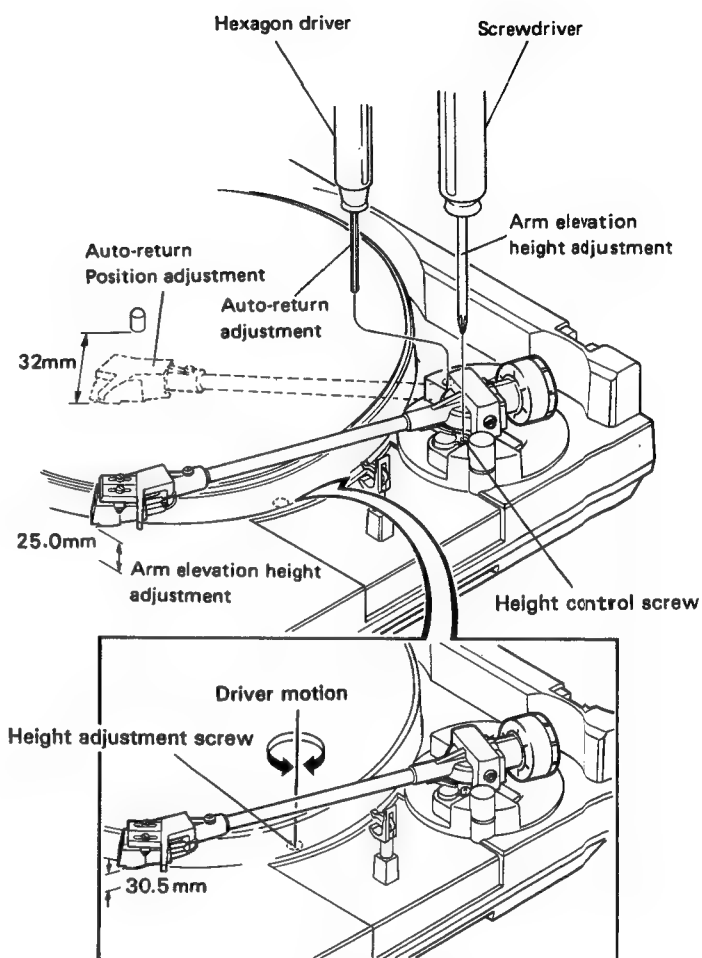

Fig. 8-3 Arm elevation height adjustment and auto-return adjustment
5. Stop turning the adjustment screw at the point at which there is a space of 32 mm between the cartridge stylus and the center shaft. (Fig. 8-3)
3. Turn the height adjustment screw to set the stylus 30.5 mm over the cabinet (Fig. 8-3).